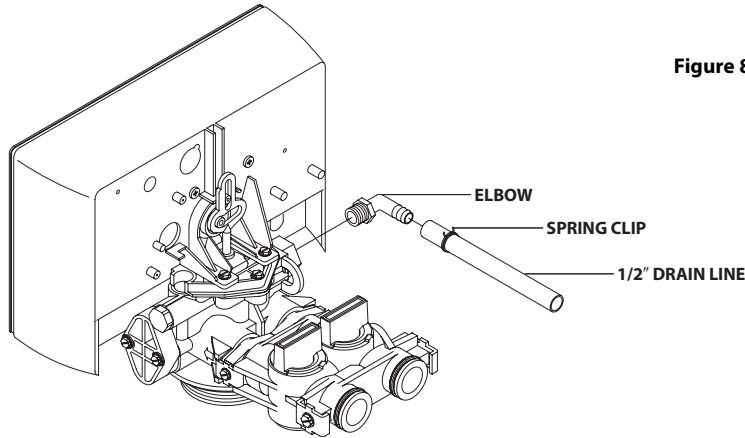

Figure 8\*
- Connect 1/2" I.D. drain line to the drain outlet of both valves; outlet side (see Figure 8). Use the supplied elbows and spring clips.